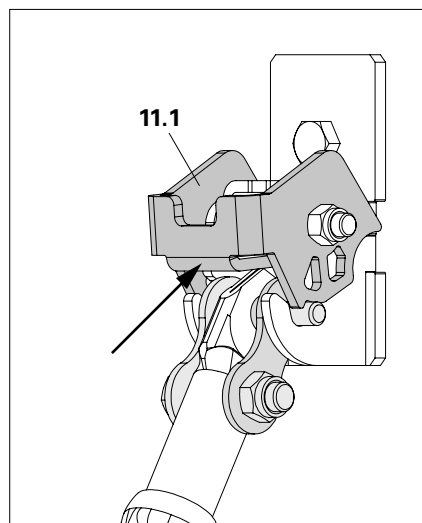

Fig. A7.07
1. Press the securing flap (11.1) upwards, e.g. with a pole. (Fig. A7.07)